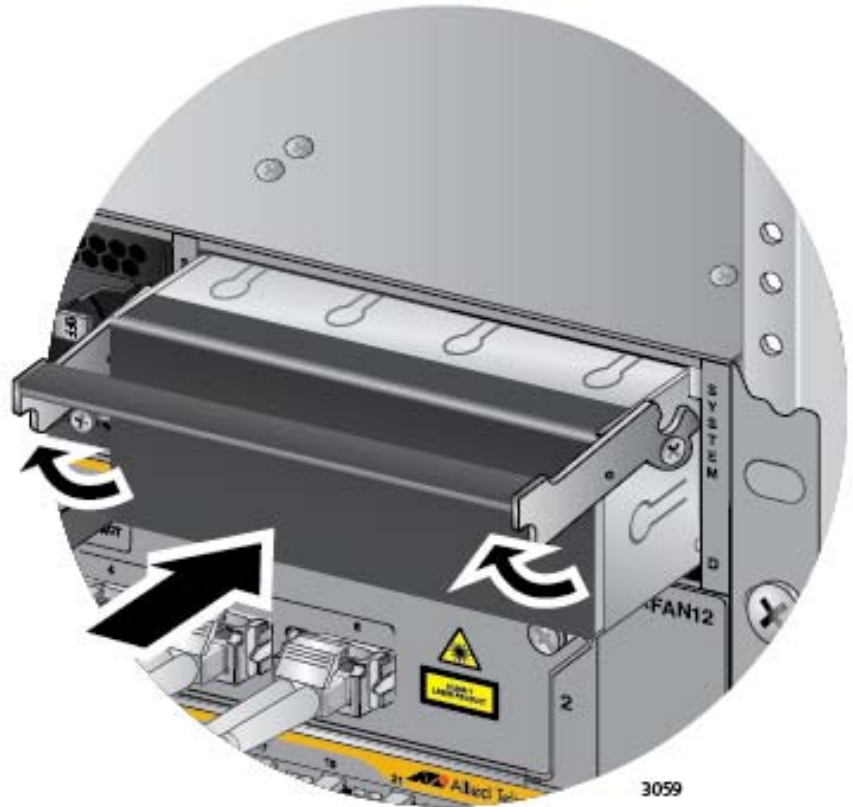

Figure 176. Installing a Blank Power Supply Slot Cover
13. Place the locking handle on the slot cover in the up position and slide the cover into the empty power supply slot. Refer to Figure 176 on page 285.